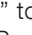

Figure 59: Favorites menu
3. Press  "Select" to select parameters. A checkmark will be shown by the selected parameter, press  "Unselect" to unselect the parameter. Press  "Done" to save and exit. See Figure 59.